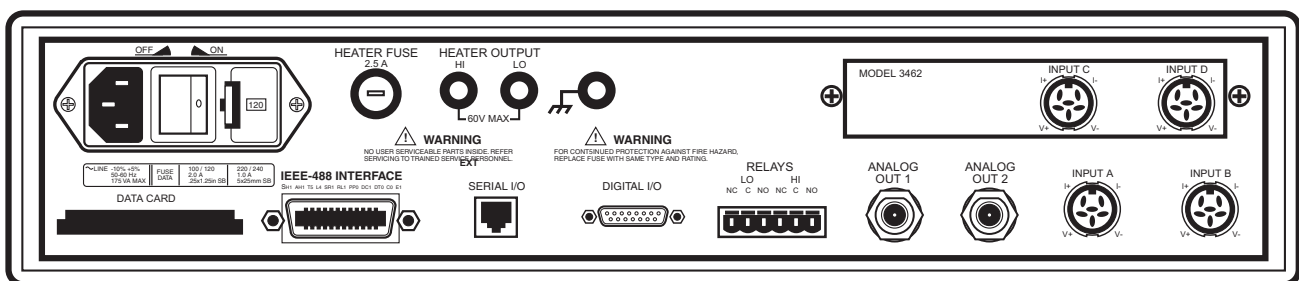

Figure 4. Model 340 Rear Panel with Model 3462 Option Card Installed
11. Stand instrument on face. Slide top and bottom covers on. Reposition rear plastic bezel, then rethread all cover screws. The completed installation of the 3462 card should look like Figure 4. (Others will look similar.)